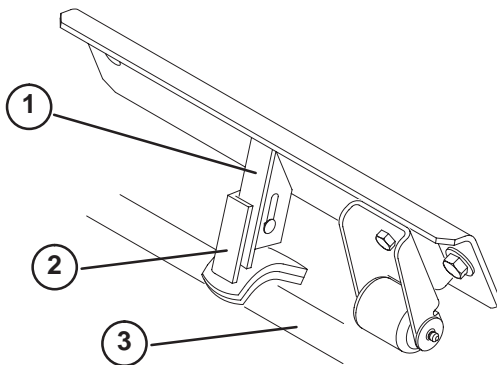

Figure 13
2. On front center cutting unit, loosen the carriage bolts and nut securing the stabilizer saddle to stabilizer (Fig. 13).